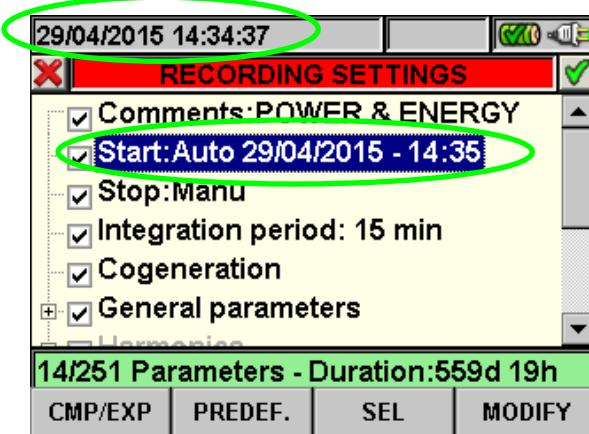

Fig. 82: Correct Date/Hour
2. Press **F4** key (alternatively touch the **MODIFY** at display). In the bottom of display a command bar with “Manu” is shown. Press **F3** key (**MOD(+)**) or **F4(MOD(-))** and select **“Auto”**. Use left or right arrows keys to move on date and hour fields. Using the up arrow key or **F3 (MOD(+))** key to increase the value and the down arrow key or **F4 (MOD(-))** key to decrease the value. Set a correct Date/Hour as shown in Fig. 82.